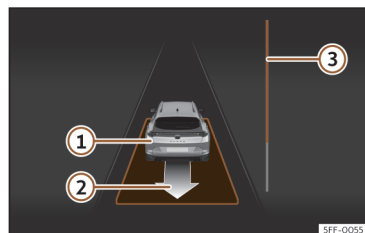

Fig. 182 On the instrument panel display: exit a parallel parking space.
- Reverse until the continuous ParkPilot signal sounds; **OR:** reverse until the instrument panel display shows the forward indication. The progress bar  **Fig. 182**  indicates the distance to cover  page 279.